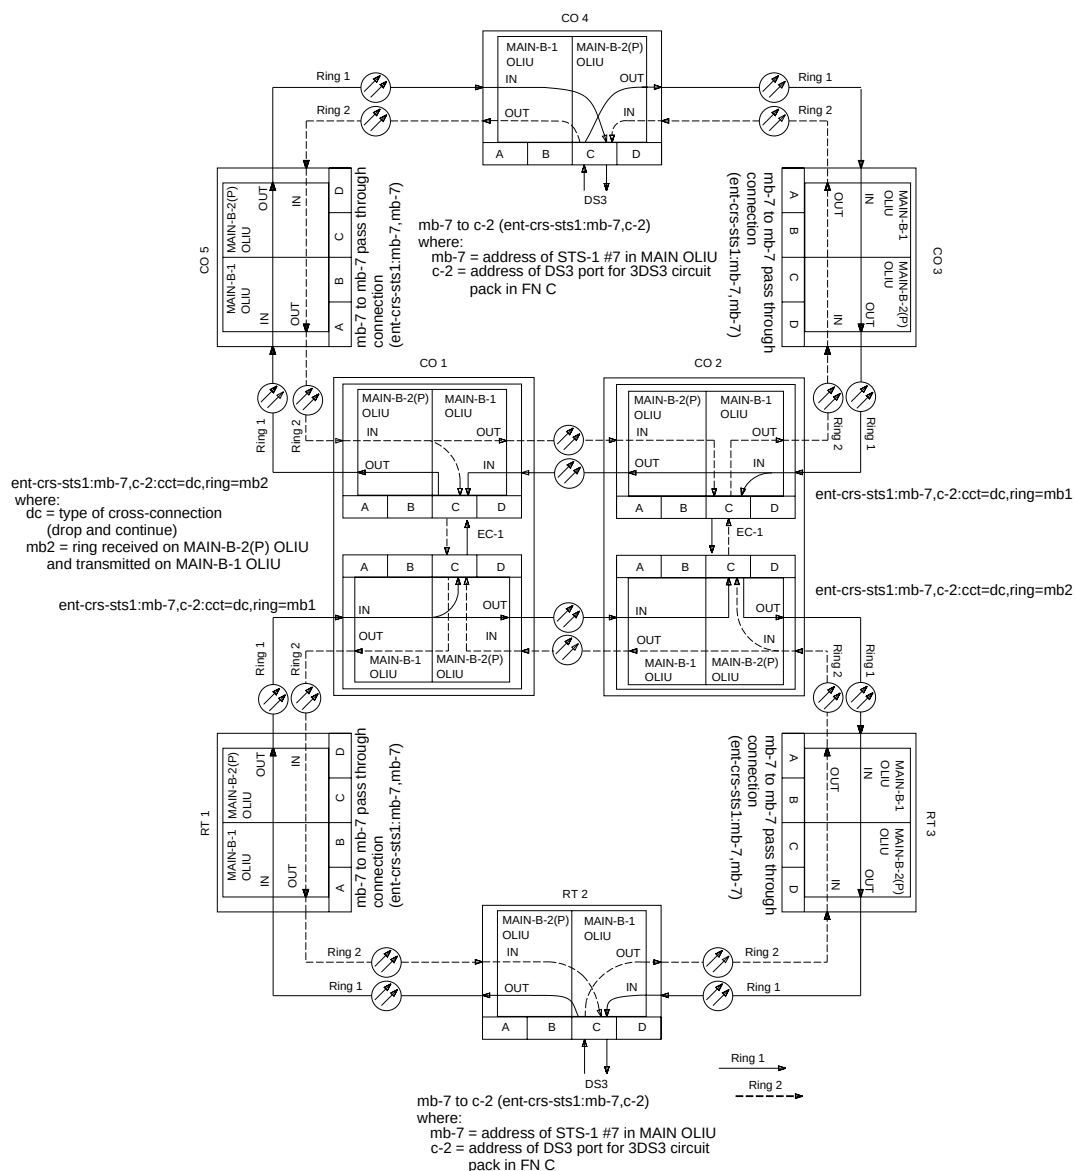

Figure 1. Example of Dual Ring Interworking Cross Connections
9. Trouble may be in optical fiber and/or connections. Trouble may also be in **OLIUs**. If the report indicated trouble when the report was obtained from the near end of the span, trouble may be in the receive direction (see Figure 1). If the report indicated trouble when the report was obtained from the far end of the span, trouble may be in the transmit direction. Check optical fiber and connections. Clean optical fiber connections [**DLP-522**]. If no trouble found in the optical fibers, replace **OLIU(s)** [**DLP-518**] associated with the address indicated in the report.
You will have to login to more than one node in each ring to get a complete map of the network using the **rtrv-map-network** and **rtrv-map-neighbor** commands. If a drawing of the network is not provided with the work order, it is recommended that you draw a simple schematic of the network before making cross-connections. List the TID of each node and how they are connected to each other. Figure 1 shows an example of a simple schematic.
In dual ring configurations, cross-connections consist of drop and continue connections in addition to pass-through and terminating cross-connections. For example in Figure 1, drop and continue connections are made at the four nodes in CO1 and CO2 located between the two rings. Also, cross-connections must be made in all interconnected rings, including other DDM-2000 OC-3 rings, DDM-2000 OC-12 rings, and FT-2000 OC-48 rings, as required.